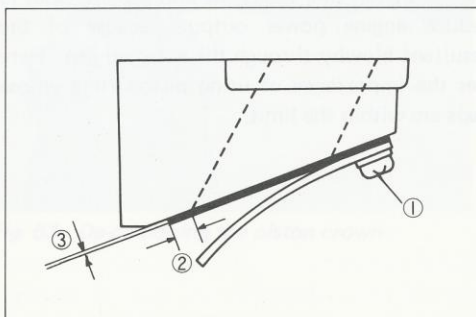

Fig. 69. Reed valve inspection
Using a thickness gauge, check the clearance between reed valve and its seat. If this clearance, indicated as ③ in Fig. 69, is noted to exceed 0.2 mm (0.008 in.), replace the whole reed valve assembly.
In the supply of replacement parts, the reed valve assembly is a basic unit: its individual parts are **not** supplied. Of course, the assembly in place, as shown in Fig. 69, may be disassembled for servicing and, if it has to be disassembled, these two rules must be adhered to in reassembling:
- (1) Tighten the screws ① to a torque of anywhere between 7 and 9 kg-cm (0.50 - 0.65 lb-ft), with LOCK CEMENT (99000-32040) applied to screw threads.
- (2) Check to be sure that the dimension ②, Fig. 69, is at least 1 mm (0.04 in.).